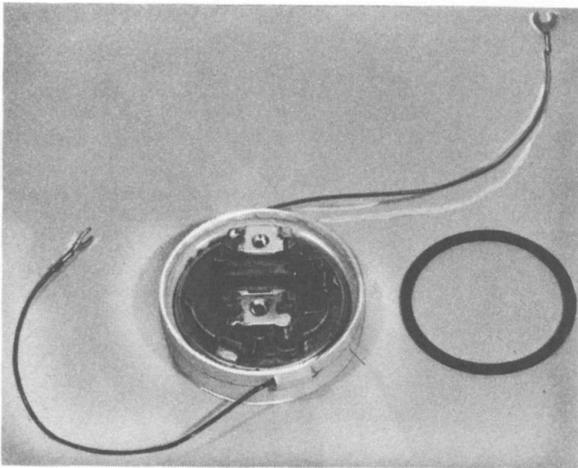

Fig. 11—Receiver Unit Installed in Coil Assembly
- (5) Place the receiver unit in the coil assembly (Fig. 11).